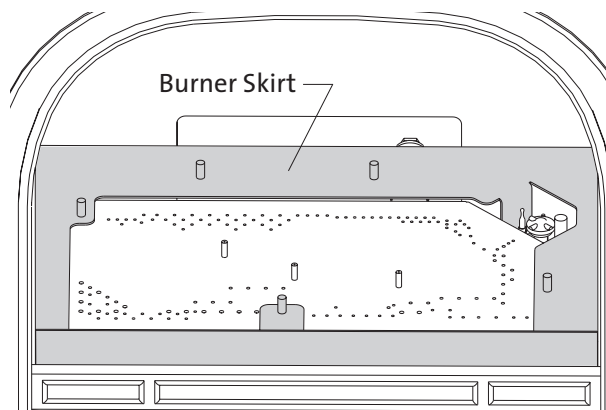

Figure 11. Lift and remove the Burner Skirt from within the firebox.
5. Lift out the Burner Skirt shown in fig.11.